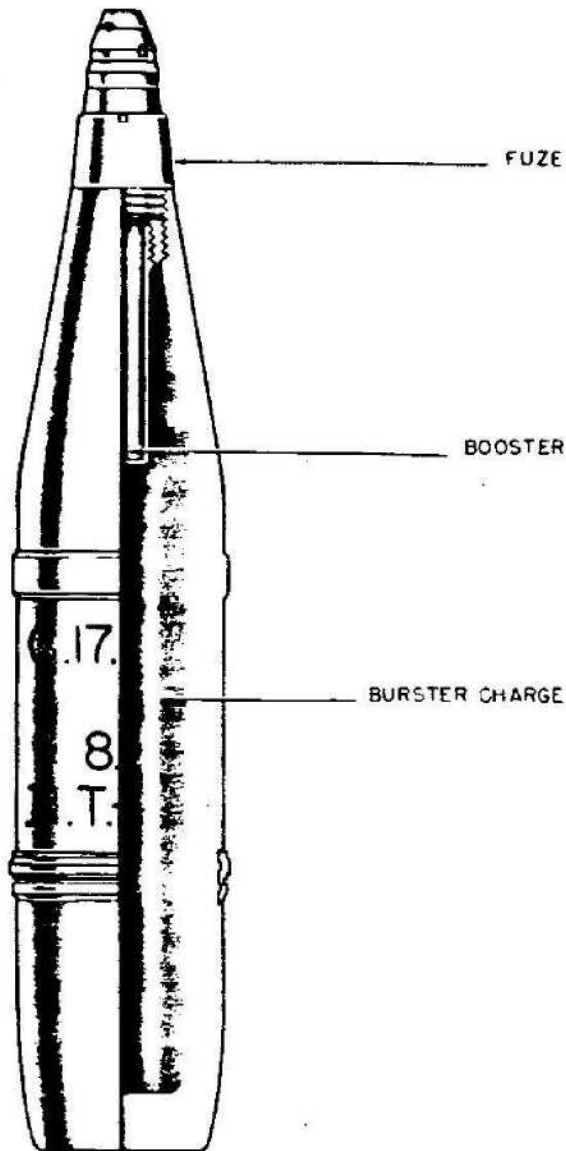

Figure 417—H. E. Projectile for Field Gun, 76.5-mm, 7.65-cm Sprgr. (A. Z.) 275 (j)
**GERMAN NOMENCLATURE:** 7.65-cm Sprgr (A. Z.) 275 (j). (See fig. 417.)